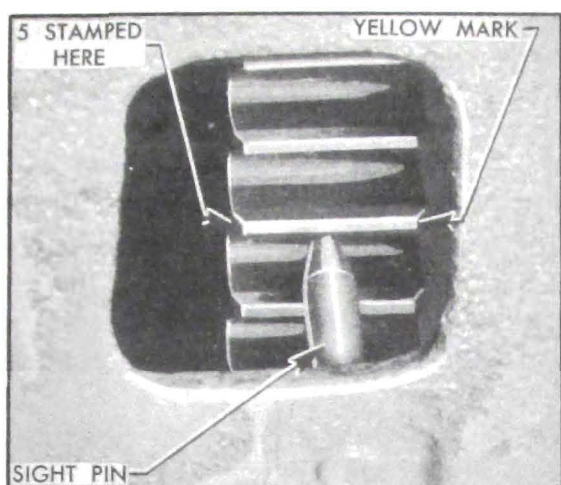

Figure 10-52—Ignition Timing Mark and Pin
The top edge of one flywheel ring gear tooth is knurled and painted yellow to provide a timing mark. A figure "5" is stamped on the front end of the marked tooth for identification in case the yellow mark becomes obscured. There is no U. D. C. mark on flywheel. See figure 10-52.
3. Direct the beam of timing light into the timing hole so that the yellow timing mark on flywheel gear tooth and the sight pin on flywheel housing can be observed. See figure 10-52. The yellow mark must be aligned with the sight pin for proper timing.
2. Crank engine until distributor rotor is in position to fire No. 1 cylinder, and the yellow timing mark on flywheel gear tooth is approximately aligned with the timing sight pin. See figure 10-52.